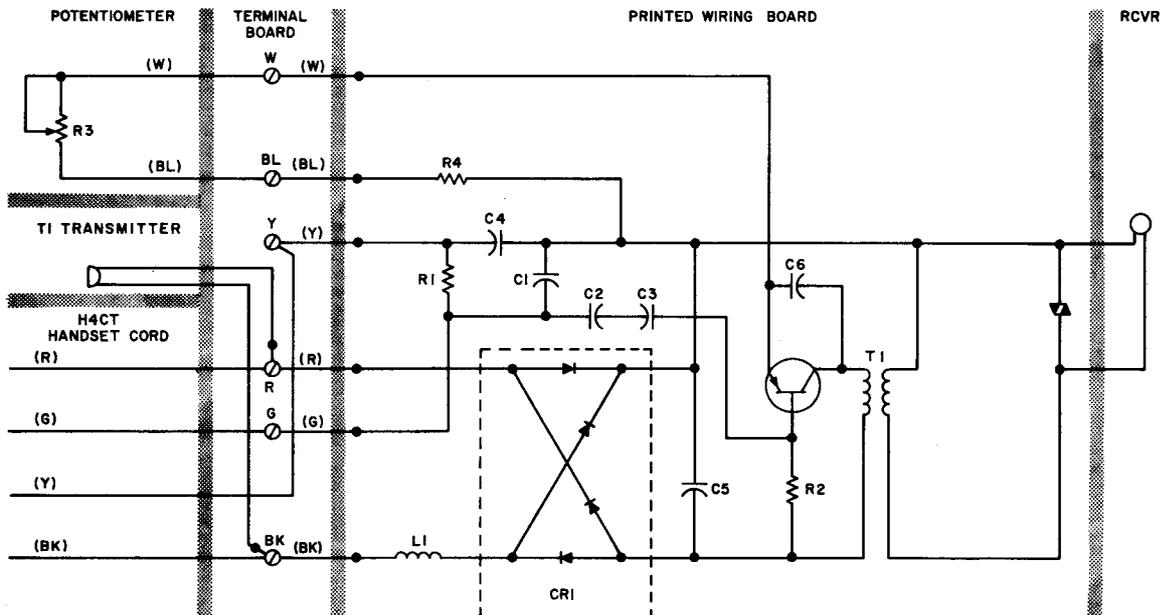

Fig. 3—G6B Handset, Schematic
3.04 Fig. 3 through 9 show schematic diagrams of the amplifier type handsets.